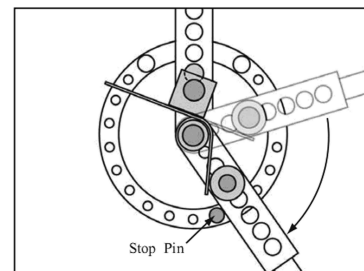

Figure 5. Making the basic radius bend.
- To limit the bending range, install the stoppin (11) in the appropriate hole in the outer ring of the bending bracket, as shown in figure 5.
- Bend the workpiece by pulling the handle towards you, as shown in figure 5.